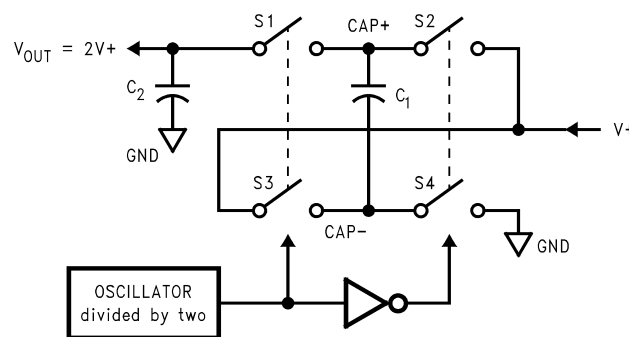

图 9-2. Voltage Doubling Principle
The LM2767 contains four large CMOS switches which are switched in a sequence to double the input supply voltage. Energy transfer and storage are provided by external capacitors. 图 9-2 illustrates the voltage conversion scheme. When S_2 and S_4 are closed, C_1 charges to the supply voltage $V+$. During this time interval, switches S_1 and S_3 are open. In the next time interval, S_2 and S_4 are open; at the same time, S_1 and S_3 are closed, the sum of the input voltage $V+$ and the voltage across C_1 gives the $2V+$ output voltage when there is no load. The output voltage drop when a load is added is determined by the parasitic resistance ($R_{ds(on)}$ of the MOSFET switches and the ESR of the capacitors) and the charge transfer loss between capacitors. Details are discussed in 节 9.
- R_{SW} is the sum of the ON resistance of the internal MOSFET switches shown in 图 9-2.